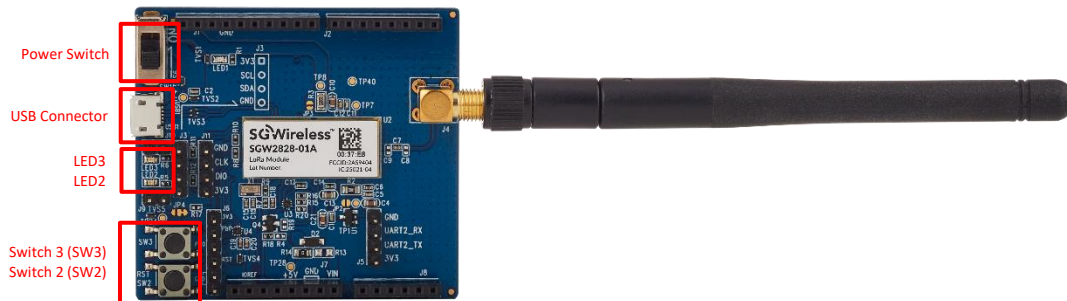

Figure 1: SGW2828-EVK
1. Using the micro-USB cable, connect the SGW2828-EVK with the antenna to the PC (Figure 1). Toggle the power switch to ON.